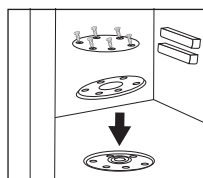

Figure 8
7. Replace the gasket and mounting plate cover. (Figure 8)